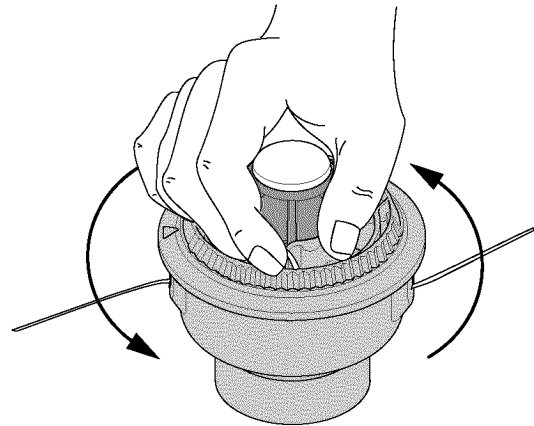

Fig. 20
8. Hold the outer spool. Wind the inner reel counterclockwise until approximately four (4) inches (102 mm) of line remain (Fig. 20).